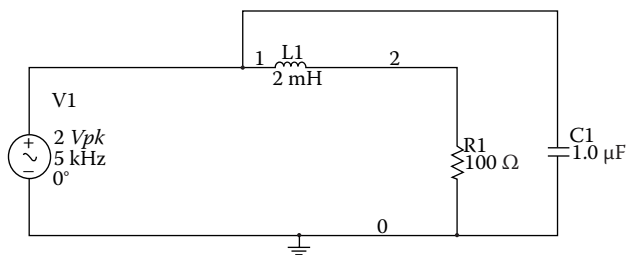

FIGURE P4.7
Problem 4.7 (1) For circuit shown in Figure P4.7, find the complex power supplied by the source with the use of the Analog Discovery board. (2) If a $1.0\ \mu\text{F}$ capacitor is disconnected across the combined $100\ \Omega$ resistor and the $2\ \text{mH}$ inductor, what is the complex power supplied by the source? (3) Compare the power factor of part (1) to that of part (2).